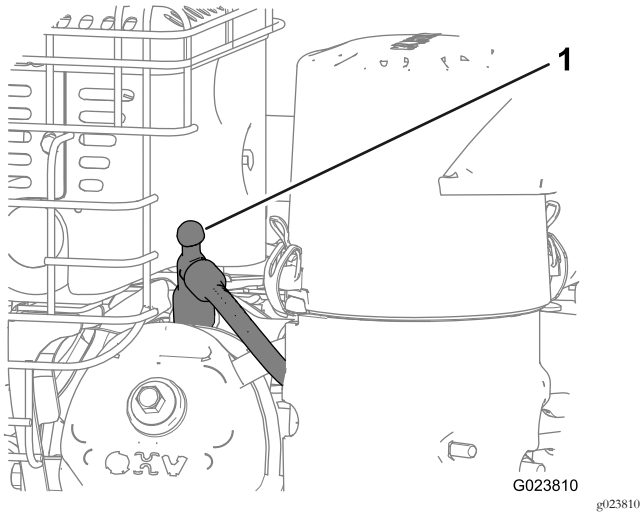

Figure 19
3. Disconnect the spark-plug wire from the spark plug and keep the wire away from the plug, to prevent accidental starting (Figure 19).
1. Disconnect the spark-plug wire from the terminal of the spark plug (Figure 19).